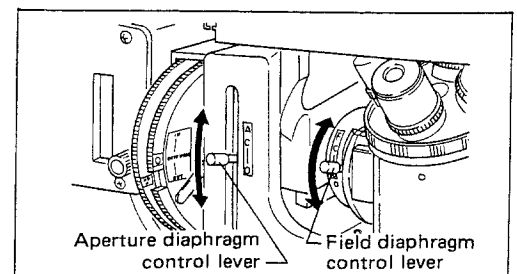

Fig. 36
- To change the opening of the viewfield diaphragm manipulate its control lever. In the position [ O ] it will be fully opened, and in the position [ C ], closed to the smallest opening. (Fig. 36)
- For adjusting the aperture diaphragm, manipulate the aperture diaphragm control lever. By turning the lever to the mark [O], the aperture diaphragm will be opened, and to the mark [C] closed. (Fig. 36) After removing an eyepiece from either of the observation tubes, adjust the size of the diaphragm, observing the image of the diaphragm which is visible on the bright circle of exit pupil of objective inside the eyepiece tube.